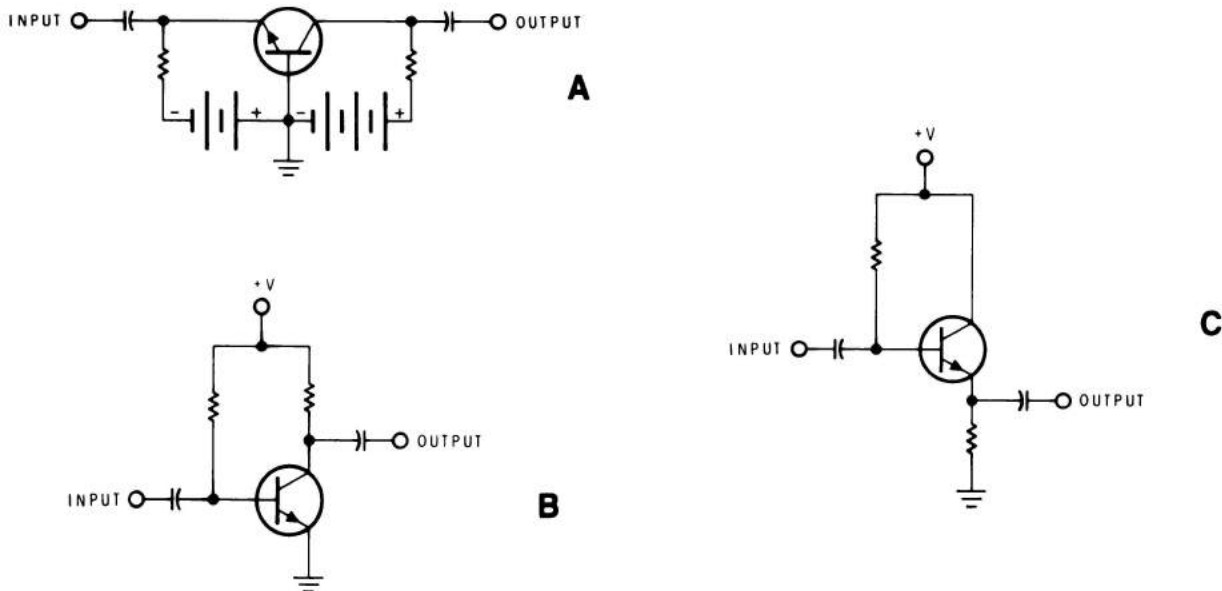

Figure 3-27
10. Name the amplifier configurations shown in Figure 3-27.
10. Even though you have not seen the circuits of Figure 3-27 before, you should be able to identify the configuration from the input and output connections. They are as follows: